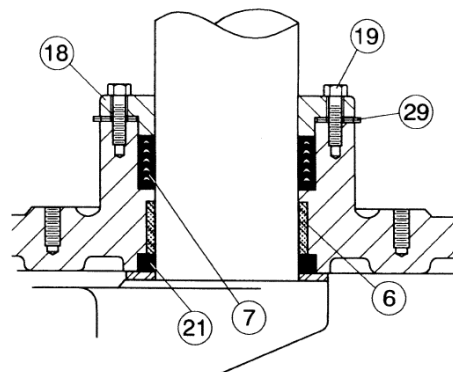

FIGURE 13. PACKING ASSEMBLY
Remove the small round cover on actuator to expose shaft and key. Remove actuator mounting bolts and lift actuator from valve taking care not to lose square key. See Figure 13 and remove gland bolts (19) and lift follower (18) from the valve shaft. Remove old packing (7) with packing hook. Lubricate new packing with FDA grease and set in place one ring at a time taking care not to bend over the lips of the packing rings. Reinstall follower with 2 shims (29) per bolt (3 shims for 12" and larger valves). With valve in the closed position, place the actuator over valve and reinsert key (24). Finally, reinstall cover on actuator indicating "Closed".
Referring to Figure 13, remove follower bolts (19) and side follower (18) up to actuator. Remove packing adapters and rings (7) with packing hook. Cut rings with knife to remove. New packing rings should be cut at a 45-degree slope to allow insertion around the shaft and provide some overlap. Install rings one at a time with the tips down toward the valve. Stagger all joints 180 degrees around the shaft. Pull down follower (18) and reinsert bolts (19) with 2 shims (29)